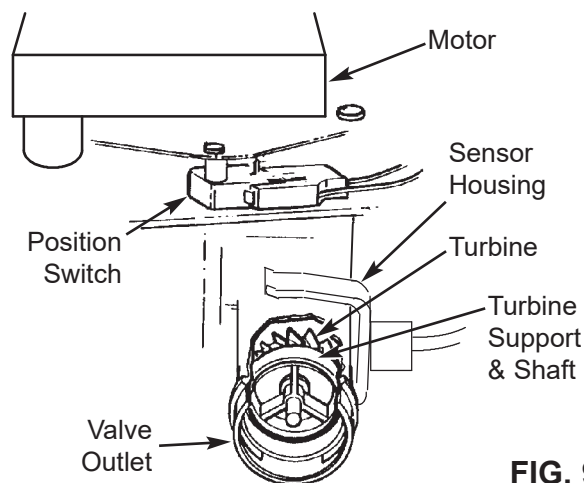

FIG. 95
6. If the display reading does not change with the faucet open, pull the wire harness from the valve outlet port (See Figure 95).